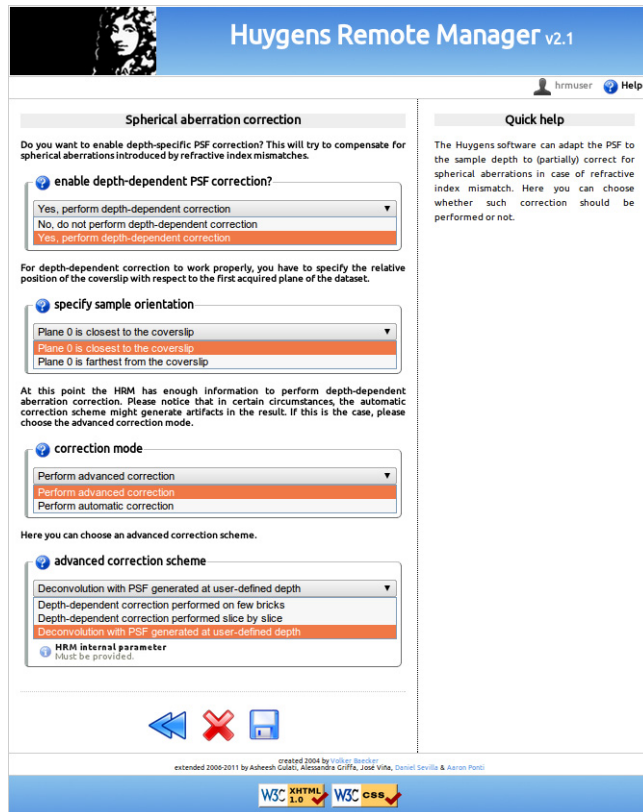

FIGURE 2.11. Image Parameter Settings. The spherical aberration correction can be applied when using a theoretical PSF.
- *Theoretical PSF, spherical aberration correction:* if necessary HRM will ask whether to correct the theoretical PSF for spherical aberration (See Figure 2.11). In general, better deconvolution results are achieved if the spherical aberration correction is applied. A few more parameters are necessary for the spherical aberration correction, though. Namely, the position of the coverslip respect to the first slice of the dataset and whether or not the so-called PSF depth-dependent correction (few bricks, slice by slice, or at user-defined depth) must be taken into account. Due to the spherical aberration the PSF size and shape changes with the sample depth. To correct for this effect Huygens Core will generate a "dynamic" PSF adapted to the different z positions (See <http://www.svi.nl/MismatchDistort-sPsf>). Use the Spherical Aberration correction only if there is a significant mismatch between the refractive indexes of the objective and of the sample medium, as the processing is significantly more time-consuming. The following selections play a role in the spherical aberration correction applied to the theoretical PSF: